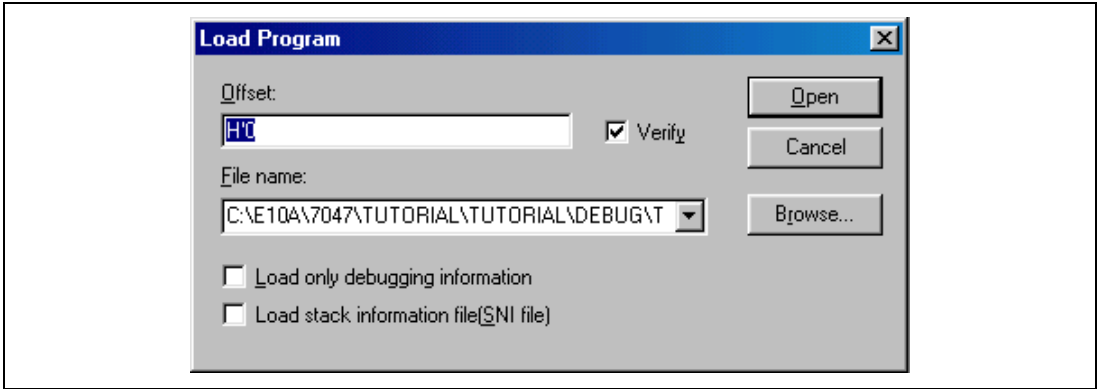

Figure 3.4 [Load Program] Dialog Box
- Select [Load Program...] from the [File] menu. The [Load Program] dialog box is displayed. Enter '[installation directory]\tutorial\tutorial\Debug\tutorial.abs' in the [File name] list box as shown in figure 3.4, then click the [Open] button.